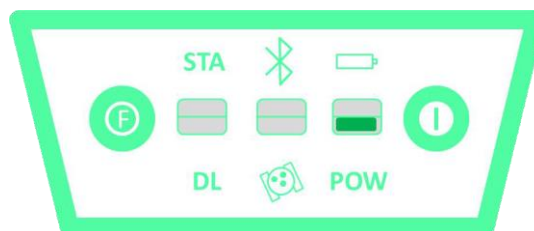

Fig. 2-8 External Power Light
**PWR (green)**: External power supply light (Fig. 2-8).